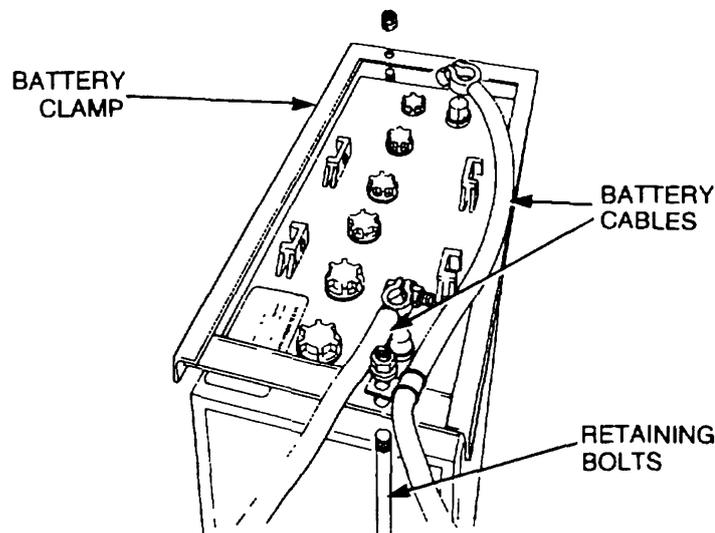

Figure 175 Battery Removal
- d. Remove the nuts and washers securing the battery retaining bracket and remove the bracket (Figure 175).